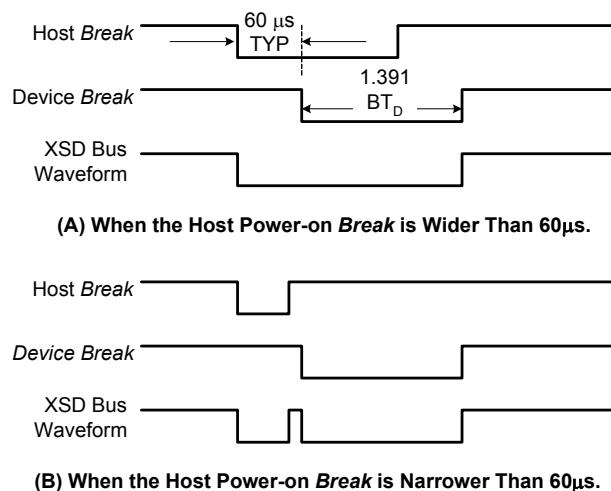

FIGURE 4. POWER-ON BREAK SIGNAL TO WAKE-UP THE ISL6296 FROM SLEEP MODE
Note that the ISL6296 will initiate the power-on sequence without waiting for the power-on 'break' signal to return to the high state. If the host sends an initial 'break' pulse wider than 60µs, the device-ready 'break' returned by the ISL6296 will likely be merged with the pulse sent by the host and, therefore, may not be detectable. Figure 4 illustrates the waveforms during the Power-on Reset. Figure 4 (A) is for the case that the power-on 'break' rising edge occurs after the device starts to sending the 'break'. Figure 4 (B) shows the case that the power-on 'break' finishes before the device sending its 'break'. The device break signal is always 1.391 times of the device bit-time (BT, see XSD Bus Interface section for more details). Either case in Figure 4 will wake up the device successfully if the device is in the sleep mode.